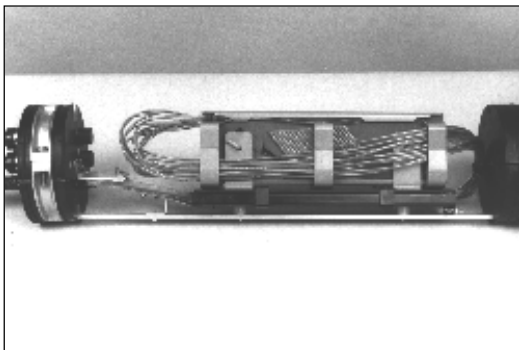

FIGURE 31 - INSTALLING TRAYS
- 17.03** Install splice trays into their appropriate location in the Splice Tray Retainers. (Figure 31)